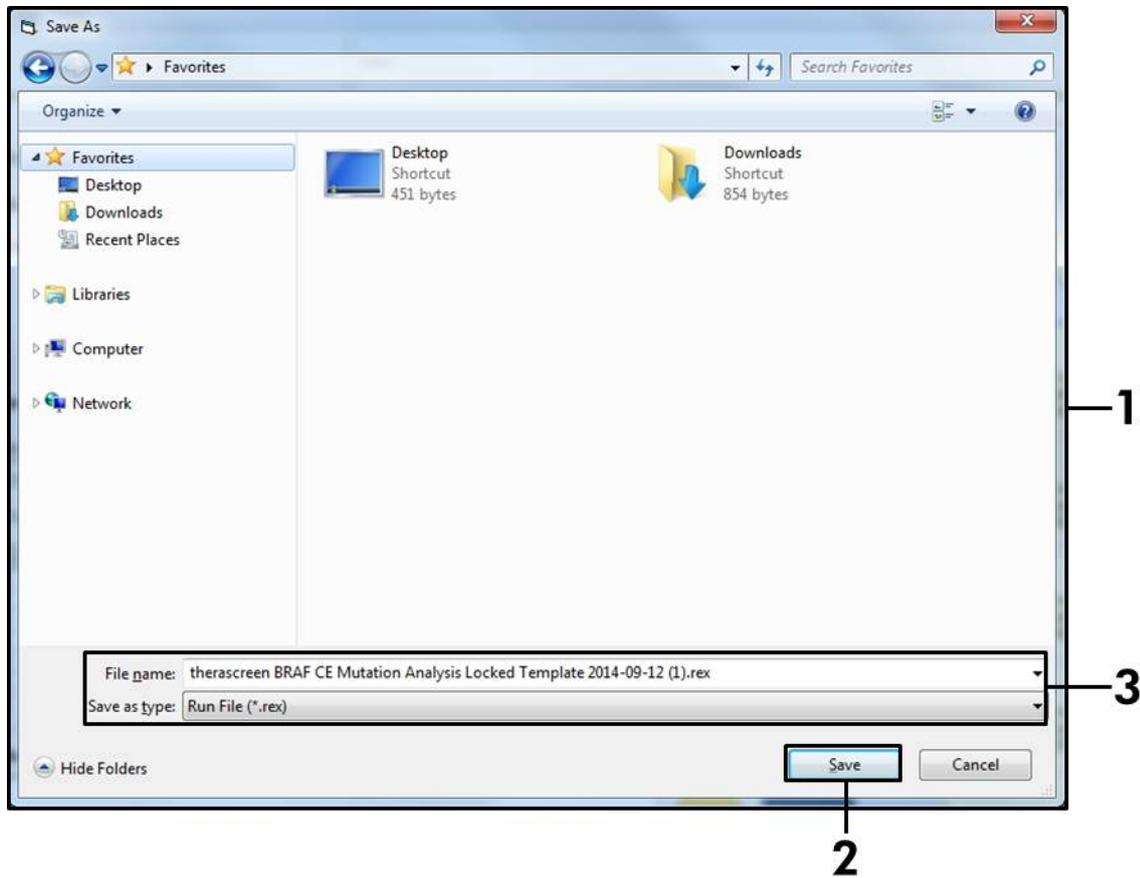

Figure 17. Saving the run file. (1 = "Save As" window, 2 = "File Name" and "Save as type" fields, 3 = "Save" button).
14. A "Save As" window appears. Chose an appropriate file name and save the PCR run as a *.rex run file to the selected location (Figure 17).